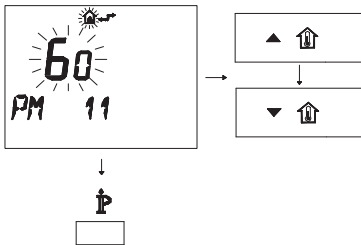

Fig. 7.34
- To modify the programmed SET, act on buttons  $\blacktriangle$   $\uparrow$  or  $\blacktriangledown$   $\uparrow$  and wait for the programmed number to flash (Fig. 7.34). Each step increased or decreased corresponds to 1 second.